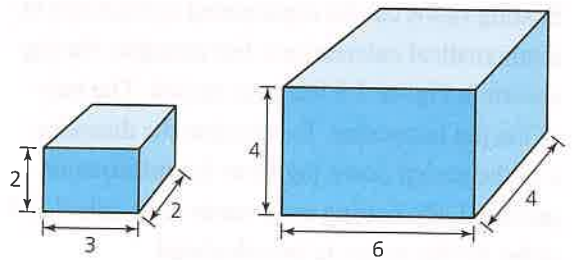

Figure 2.5 Scaling volume
Volumes are three-dimensional in form, and just like the proof for area, if all three dimensions are multiplied by the same scaler, we can say that the scaler has been cubed. Again, this can be proven with a figure, as shown in Figure 2.5.
c What is the new volume of the large cuboid in Figure 2.5 if it is scaled by a ratio of 2 : 3?
- 2** The large cuboid in Figure 2.5 is scaled to a volume of 150 mm^3 . What is the height of the new cuboid?
- 6** The mass of the large cuboid in Figure 2.5 is 0.4 kg. A cuboid with the exact proportions and of the same material has a mass of 1.4 kg. Calculate the height of the cuboid with the larger mass.